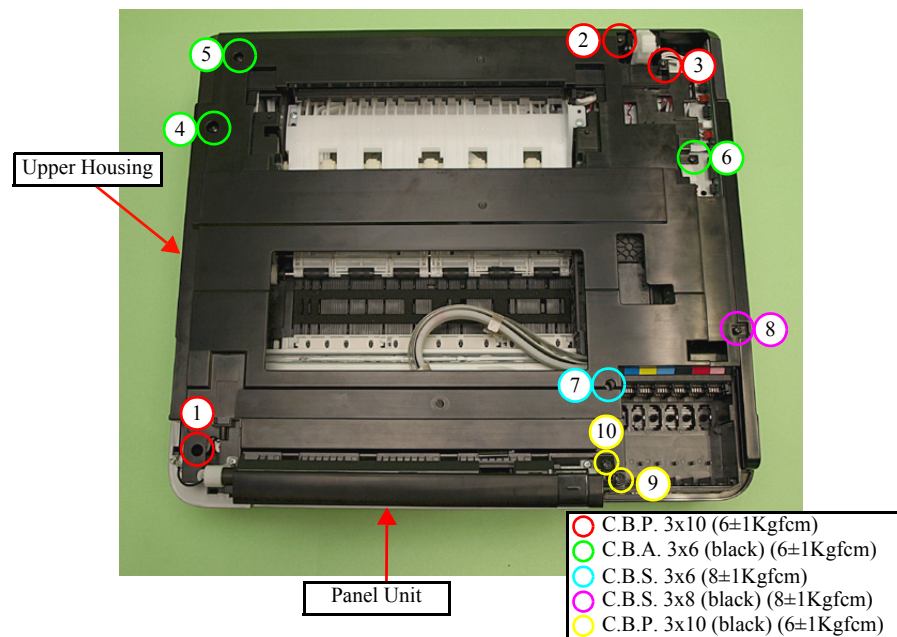

Figure 4-164. Removing the Upper Housing (2)
- Tighten the screws in the order indicated in Fig. 4-164.